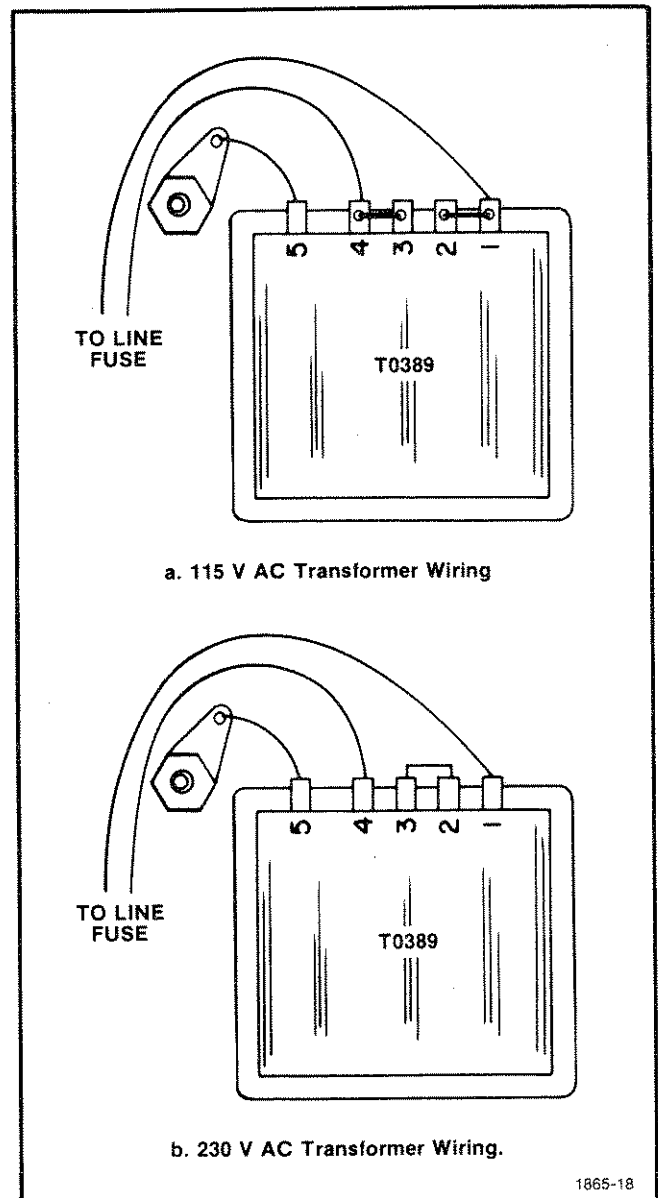

Fig. 5-4. Power transformer wiring.
**230/115 Volt Line Selector.** The line selector is composed of the input transformer's terminals and can be wired for either 115 V or 230 V. It is factory wired for 115 V. If 230 V operation is required, remove the wire straps from lugs 1-2 and 3-4 of T0389 then connect a strap from lug 2 to lug 3. See Fig. 5-4.